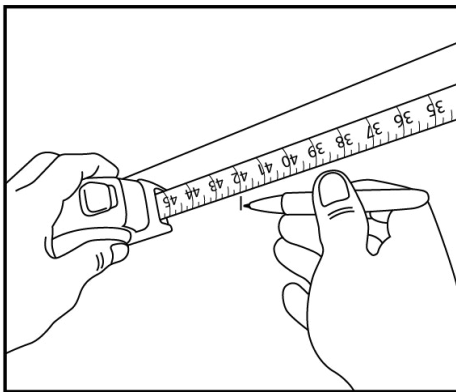

Fig.25
1. The hanger blocks **MUST** be mounted on the exterior wall of the RV directly beneath the awning hanger rail and opposite the corresponding holes previously drilled in the roller tube (Fig.25). Measure and mark the position on the RV wall for all Awnbrella arms.